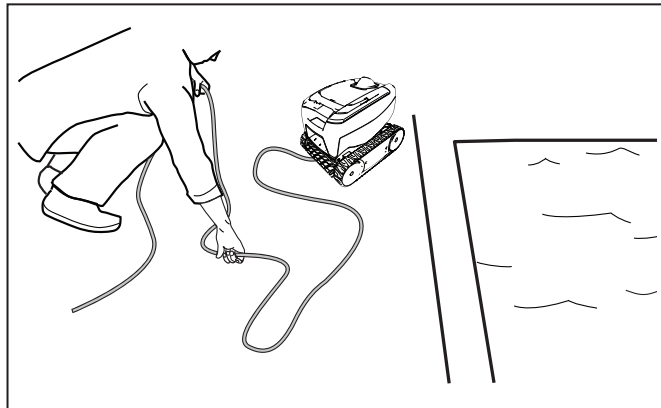

Figure 14. Untangle the Floating Cable
2. Starting at the cleaner head, remove all coils and tangles from the floating cable (Figure 14). Lay the cable in the sun to loosen any tangling memory.